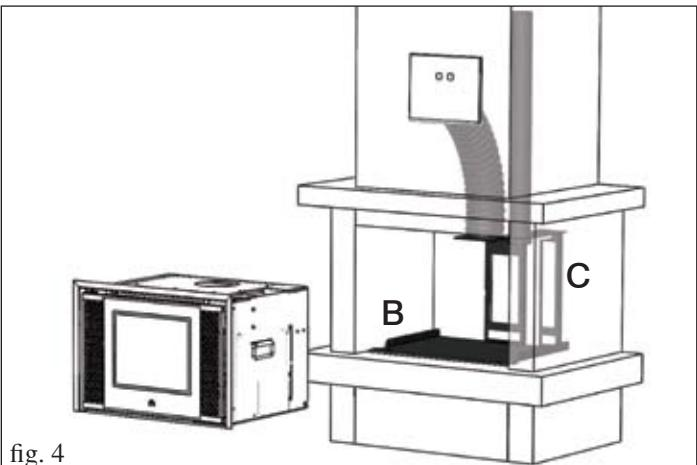

fig. 4
- Install the base plate (B) of the kit in the position where INPELLET 49 will be placed (fig. 4). Secure the plate (B) with the bolts provided.